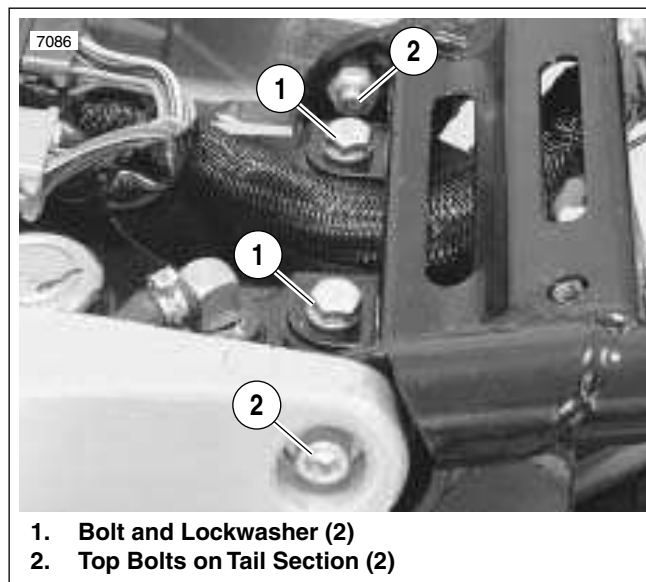
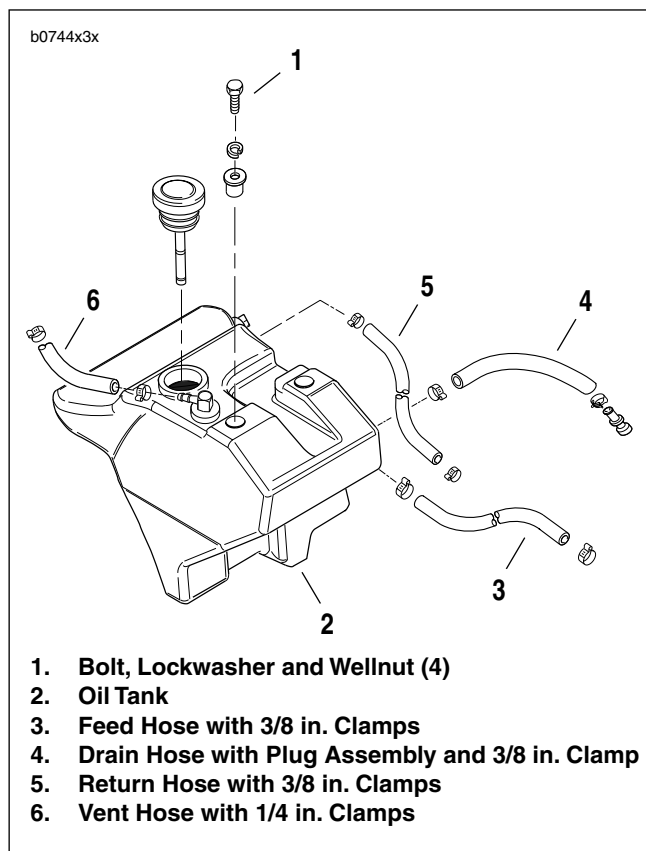

Figure 3-48. Oil Tank Mounts
Figure 3-49. Oil Tank
4. See Figure 3-48. Remove bolts and lockwashers (1) from wellnuts.
5. Loosen top bolts (2) on tail section. Rotate tail section upward. Secure with straps.
6. See Figure 3-49. Remove clamps to detach hoses from oil tank. Label each hose upon removal.
- a. Remove clamp from feed hose (3).
- b. Remove clamp from drain hose (4).
- c. Remove clamp from vent hose (6).
- d. Remove clamp from return hose (5).
1. See Figure 3-49. Place oil tank on frame and align mounts. Loosely install bolts and lockwashers (1).